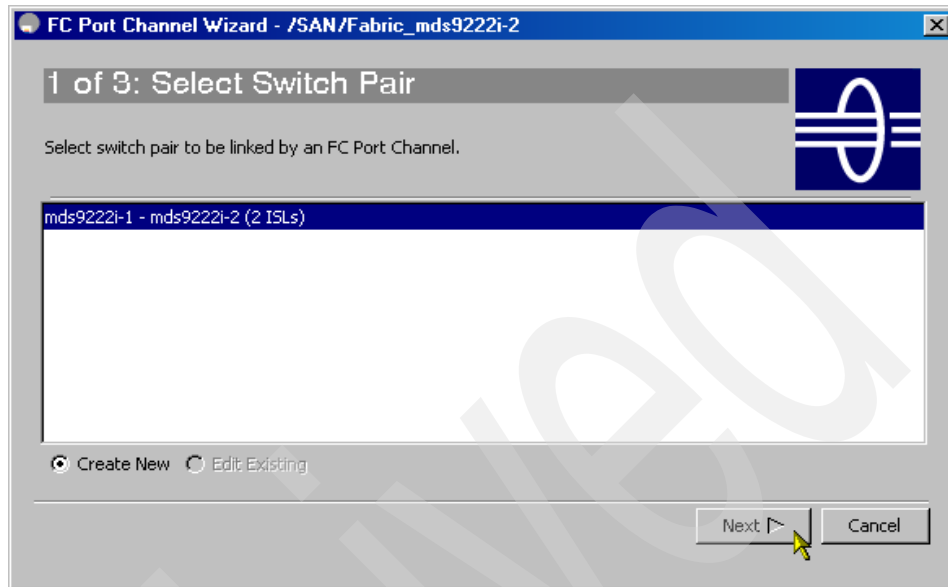

Figure 6-87 Select switch pair to establish a PortChannel
2. Select switch pair to establish a PortChannel and select **Create New**, as shown in Figure 6-87.